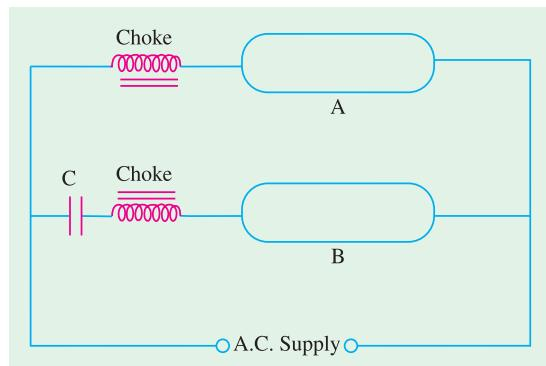

Fig. 49.54
2. By using a 'twin lamp' circuit on single-phase supply as shown in Fig. 49.54, one of the chokes has a capacitor in series with it and the lamp. In this way, a phase displacement of nearly  $120^\circ$  is introduced between the branch currents and also between the two light waves thereby reducing the resultant fluctuation.